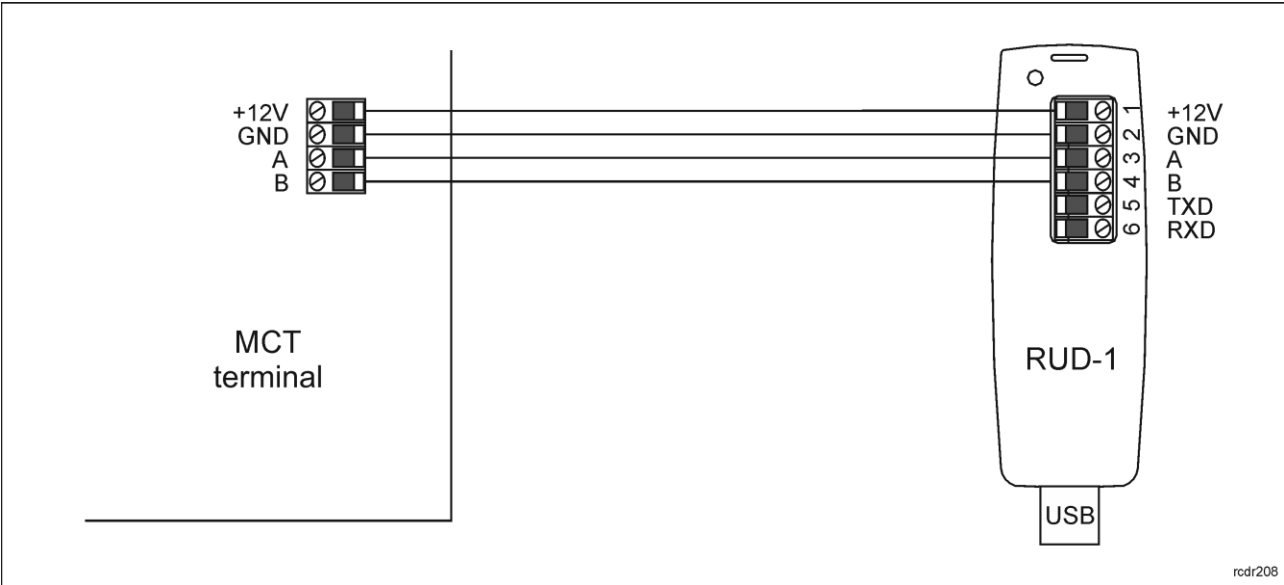

Fig. 7 Connection of MCT terminal to RUD-1 interface (low level configuration)
1. Connect the device to RUD-1 interface (fig. 7) and connect the RUD-1 to computer's USB port.